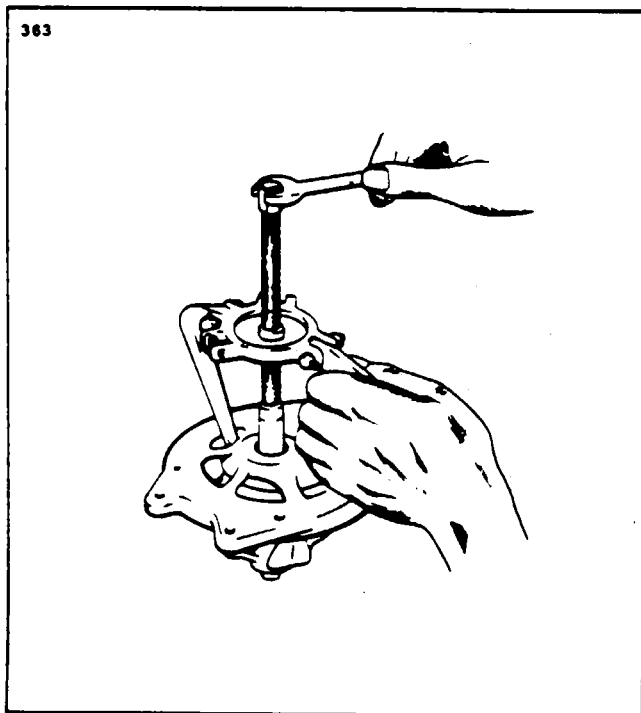
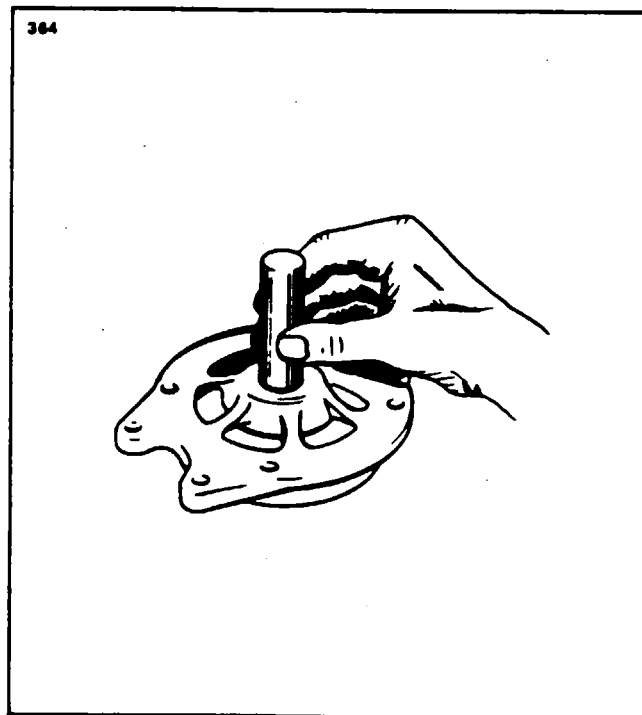

Figure 24-5. Removal of Drive End Head
Figure 24-6. Removal of End Head Bearing
6. To remove the drive end head from the rotor shaft, use a puller that grips on the bearing retainer plate as shown in Figure 24-5. Do not attempt to remove by supporting the end head and pressing on the shaft, as this may result in distortion of the end head or stripping of the retainer plate screws. Remove the three retainer plate screws and press the bearing out of the end head. (Refer to Figure 24-6.)